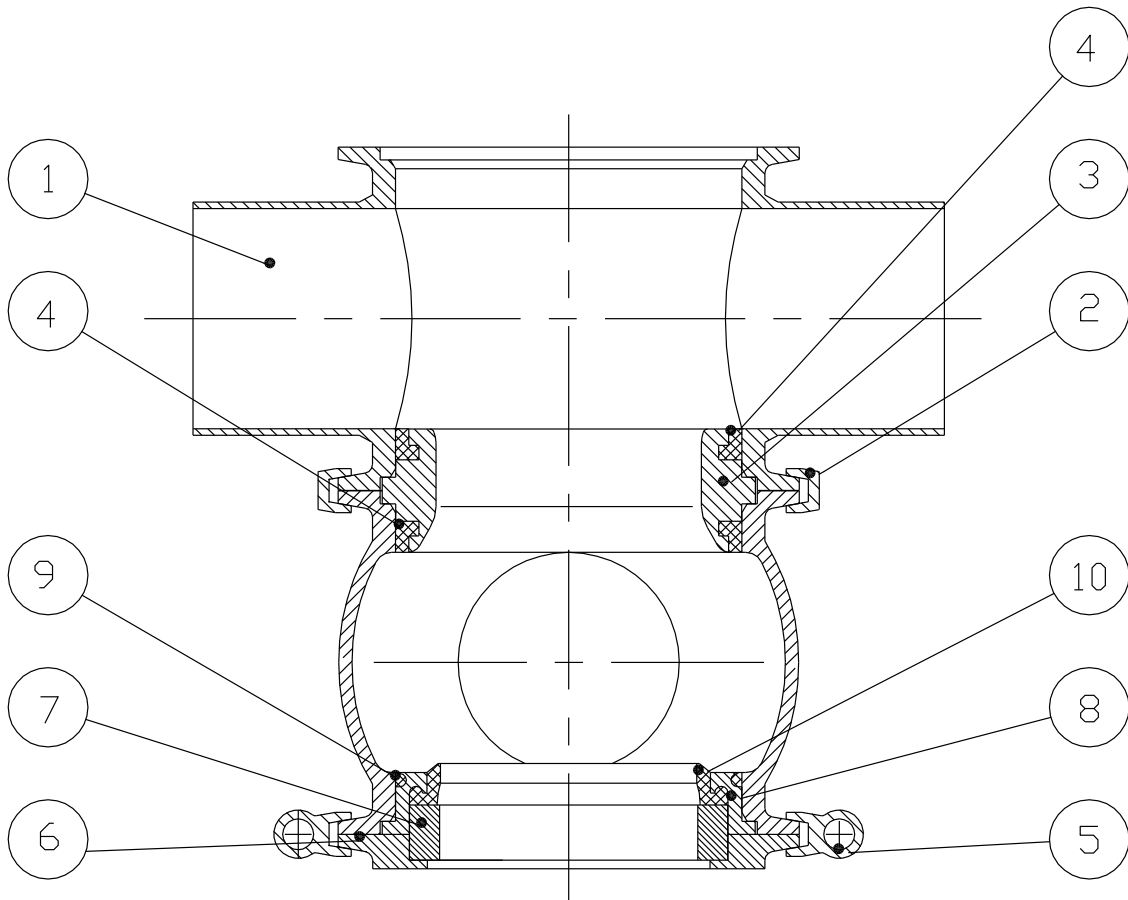

Fig MBCSS2
1.3 Body and Seat Dismantling (Fig MBCSS2)
1.7 Refit Bottom Shaft Seal and Bearing (Fig MBCSS2)
3.3 Central Body Seals (Fig MBCSS2)